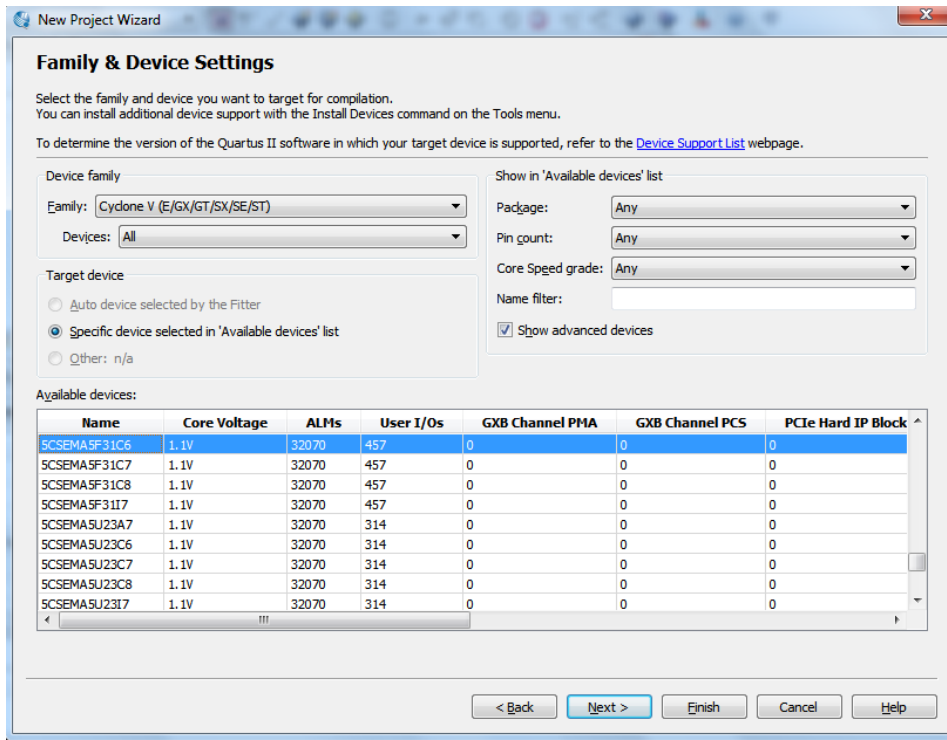

Fig. 4: Device selection window
- C.4) As shown in Fig. 4, choose Device Family – Device configuration as **Cyclone V** and **5CSEMA5F31C6**, respectively. Then click **Next**.